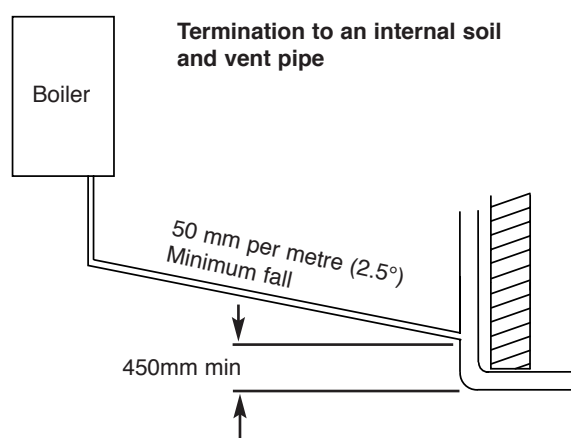

Fig. 5
- ii) to an internal soil & vent pipe - Fig. 5.